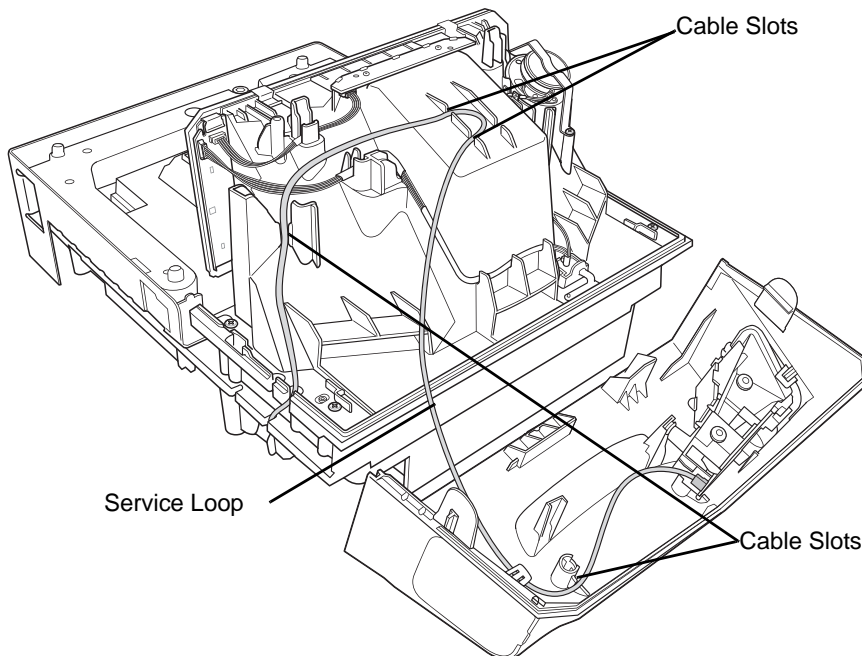

Figure 3-23 Routing the Cable
8. Route the cable, looping through the right side cable slots as shown in Figure 3-23. (Cable wire should be tight.)